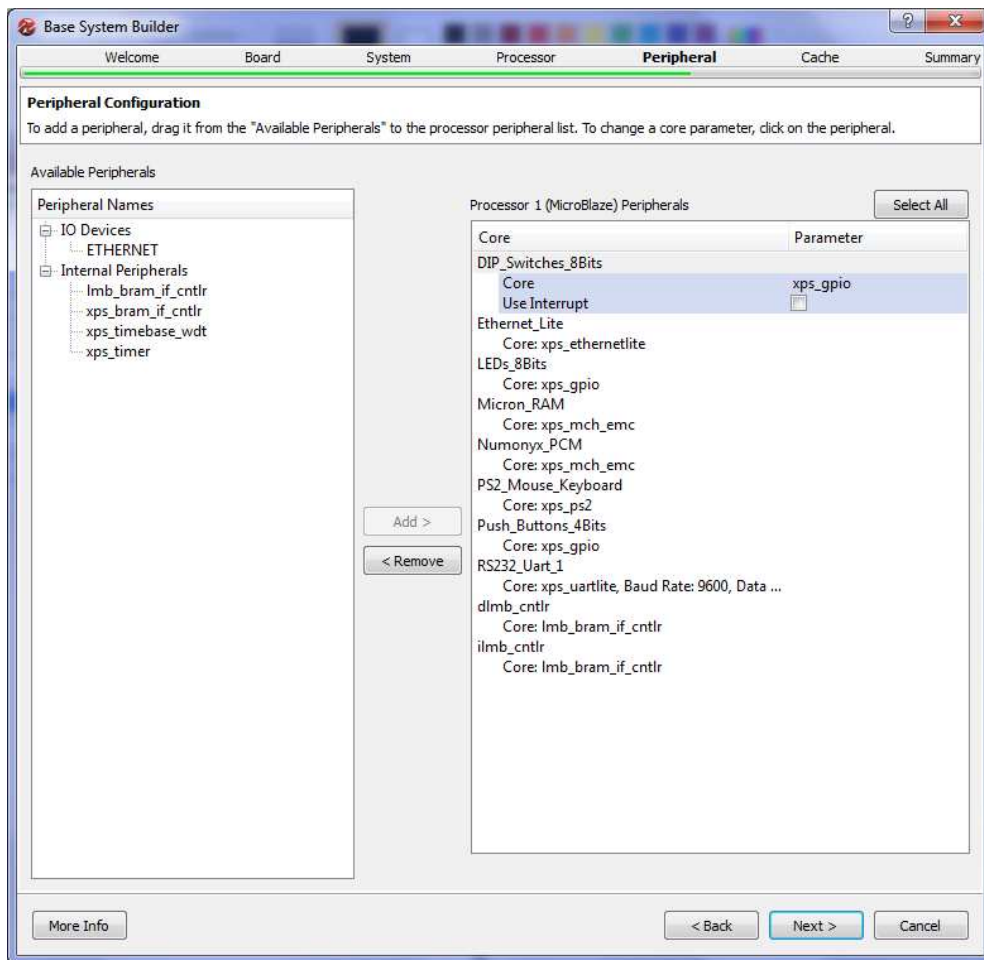
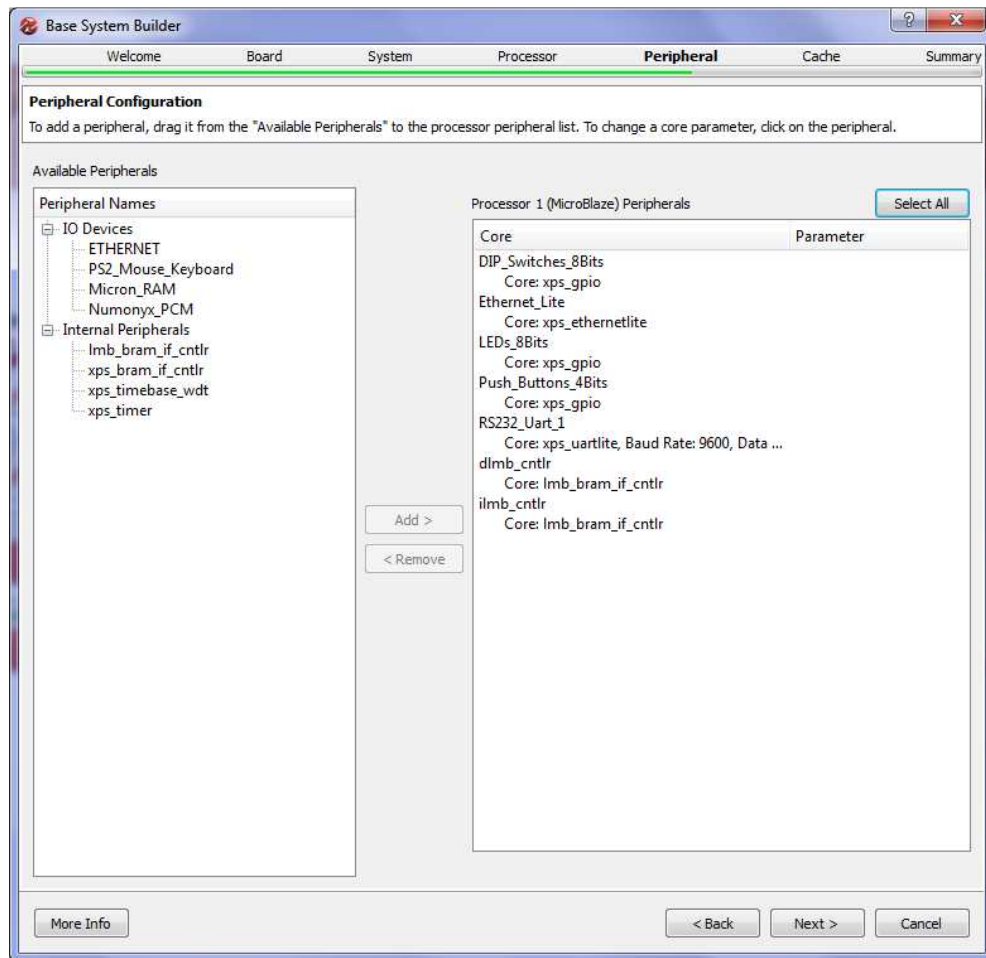

Figure 8. Peripheral Configuration (Step 8 - 1)
Figure 9. Peripheral Configuration (Step 8 - 2)
Step 8: After configuring the processor we are ready to configure the peripherals (Input/Output devices). The peripheral configuration screen is shown in Figure 8. In this screen a list of all the available peripherals is presented. From this list the designer can choose which peripheral to be connected to the processor. The screen is divided into two lists. The right-hand side list shows the peripherals that are not connected to the processor, while the left-hand side list shows all the peripherals that are currently connected to the processor. By default several peripherals will be connected to the processor as shown in Figure 8. In this project we do not need many of these devices so we will remove many of them as shown in Figure 9. Remove the following devices: